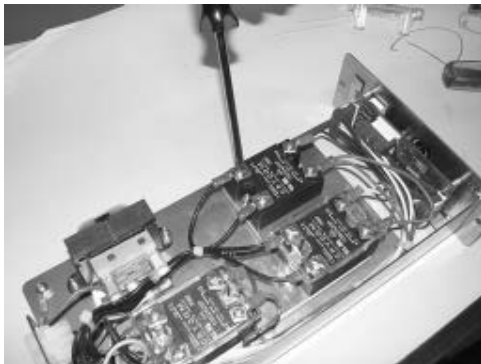

Figure 2
7. Label and remove wires from relay. Figure 2.